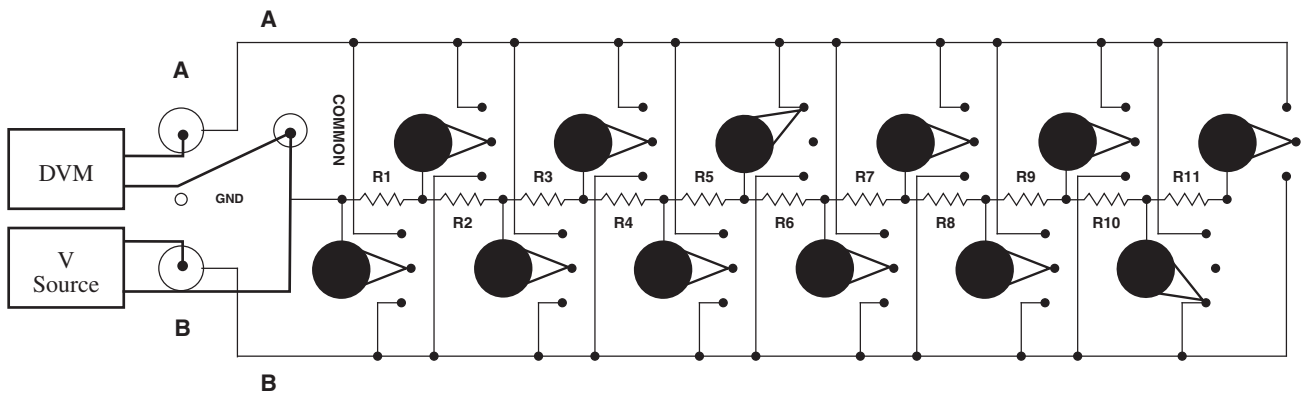

Figure 4-9: Unit configured as a precision voltage divider with 50% ratio
- For a precision voltage divider with 50% ration, see Figure 4-9.
The HATS-Y unit may be used as a precision voltage divider. See Figure 4-9. For this application: